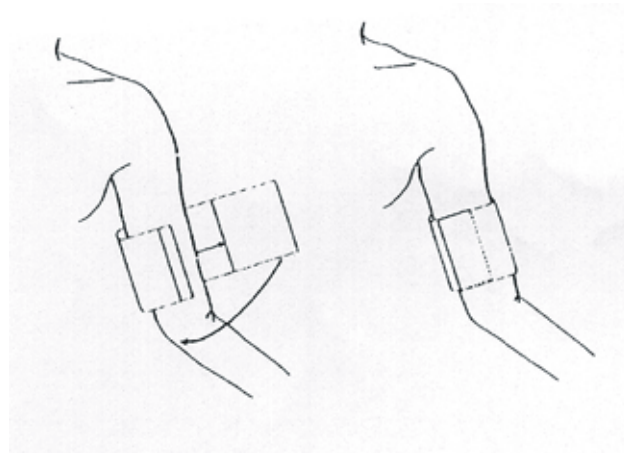

Figure 14-1 Applying Cuff
2. Apply the blood pressure cuff to the patient's arm or leg following the instructions below (Figure 14-1).